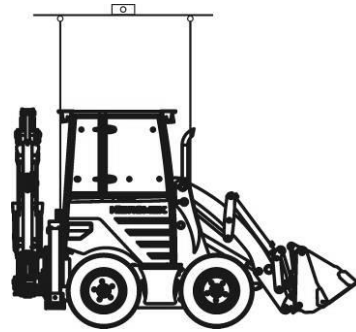

Figure 1
- E) Attach the spreader bar onto a lifting equipment with adequate capacity to lift the machine. See Figure 1 on this page.
- G) Locate lifting eyes at the front and rear of the machine and attach the hooks to the lifting eyes. See Figures 1, 2 and 3 on this page.